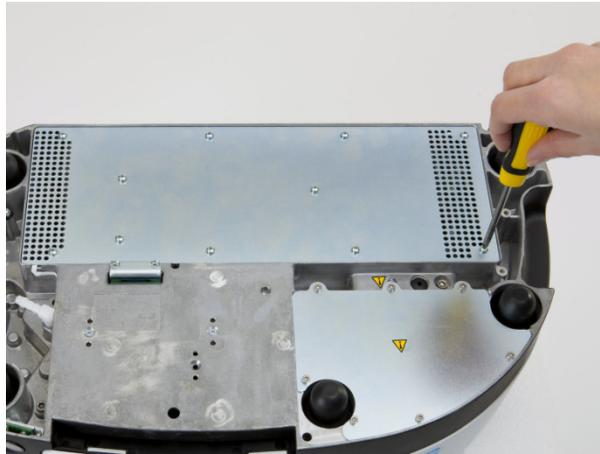

Figure 92 Remove the securing screws
- Using a Philips-type, PZ No 1 screwdriver, undo the screws securing the main board compartment cover to the instrument and remove the cover (Figure 92). Retain the screws and store in a safe place.